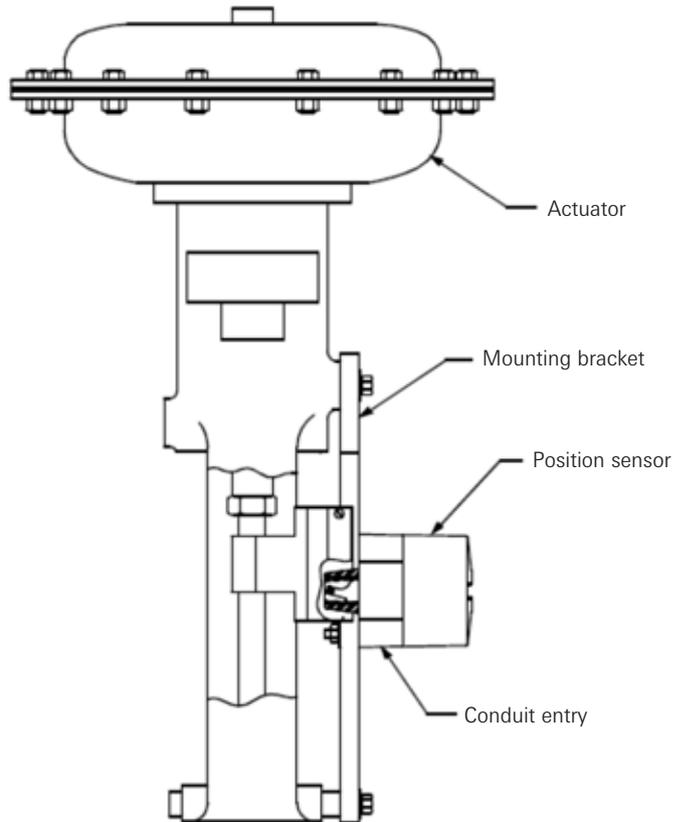

Figure 2-5
Step 2. Mount the position sensor housing so that the conduit entry faces away from the diaphragm or cylinder. (See Figure 2-5 A)